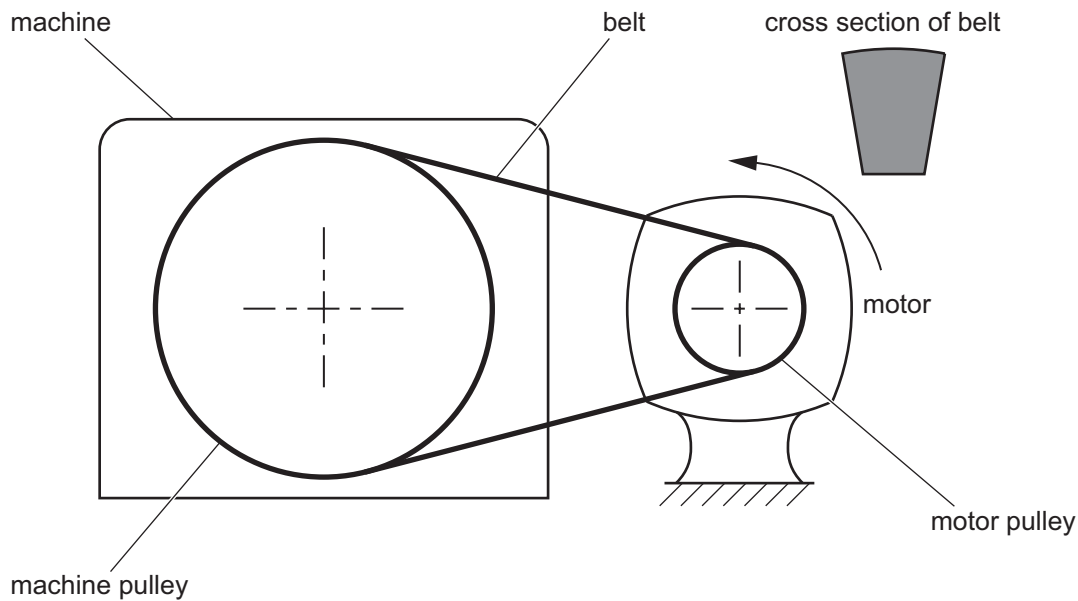

Fig. 2
- 3 Fig. 2 shows a belt and pulley system that is used to transmit power from a motor to a machine pulley.
- (iv) Mark on **Fig. 2** the direction of motion of the machine pulley. [1]